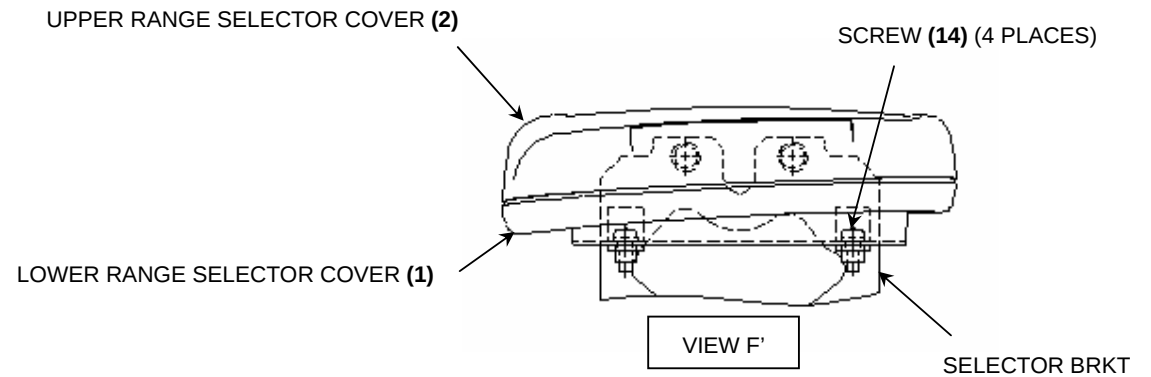

Fig 18. installation of Selector Cover
14. Install Selector Cover as shown in Figure 18.